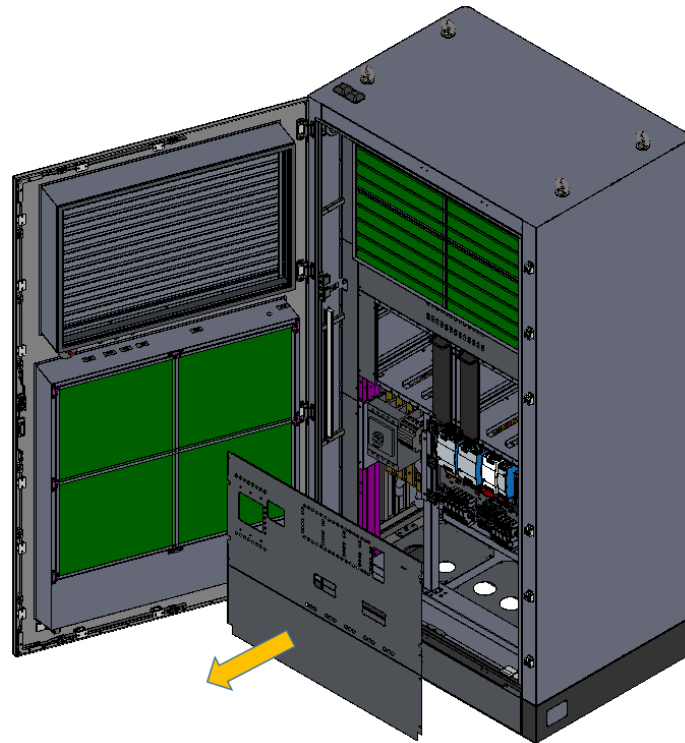

Figure 9 Diagram of removing the plates from front side
(2) Remove two plates from front side as shown in Figure 9.